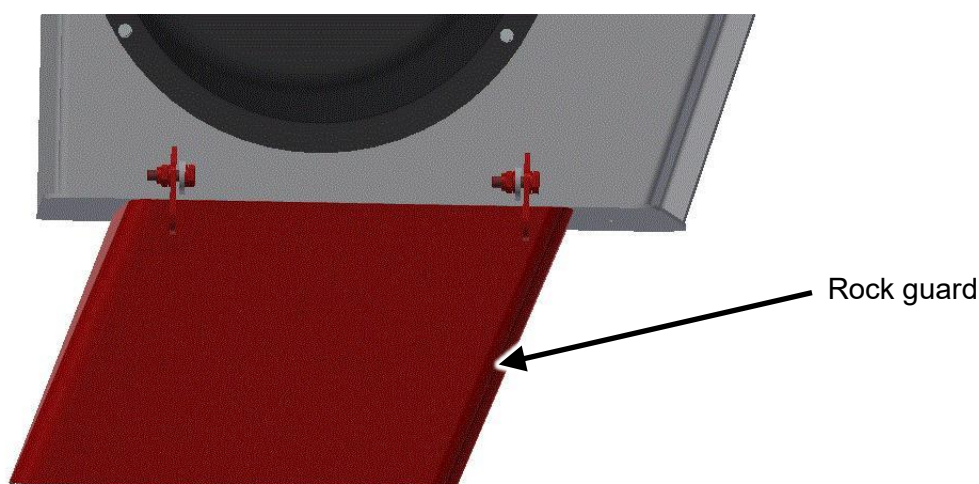

Fig. 24: Rock guard on side ejection
**If you use the side discharge without suction port, you must mount the rock guard on the mower, secure it with the stop nuts and swing it down. Do not use the side discharge without rock guard (Fig. 24).**